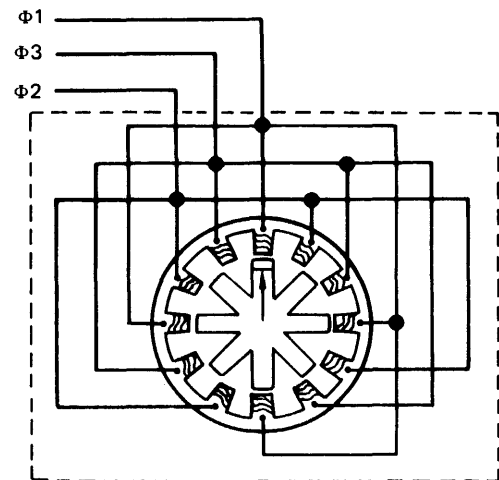

Figure 13 Stepper Motor
3.2 The stepper motor used on the SA800/801 drive is a three-phase, fifteen degree, variable reluctance stepper motor. Figure 13 shows the logic diagram of the motor.